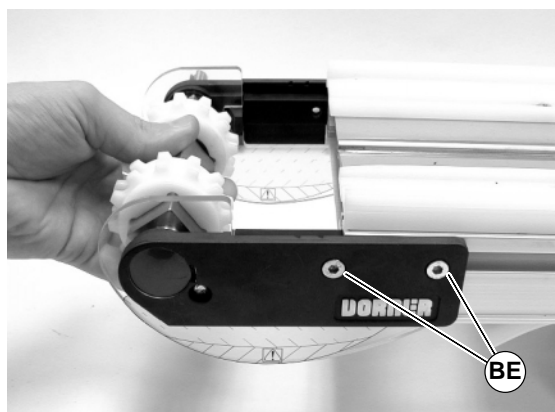

Figure 35
- On both sides of conveyor, loosen two (2) fastening screws (BE of Figure 35). Then slide drive pulley assembly out from the conveyor frame.